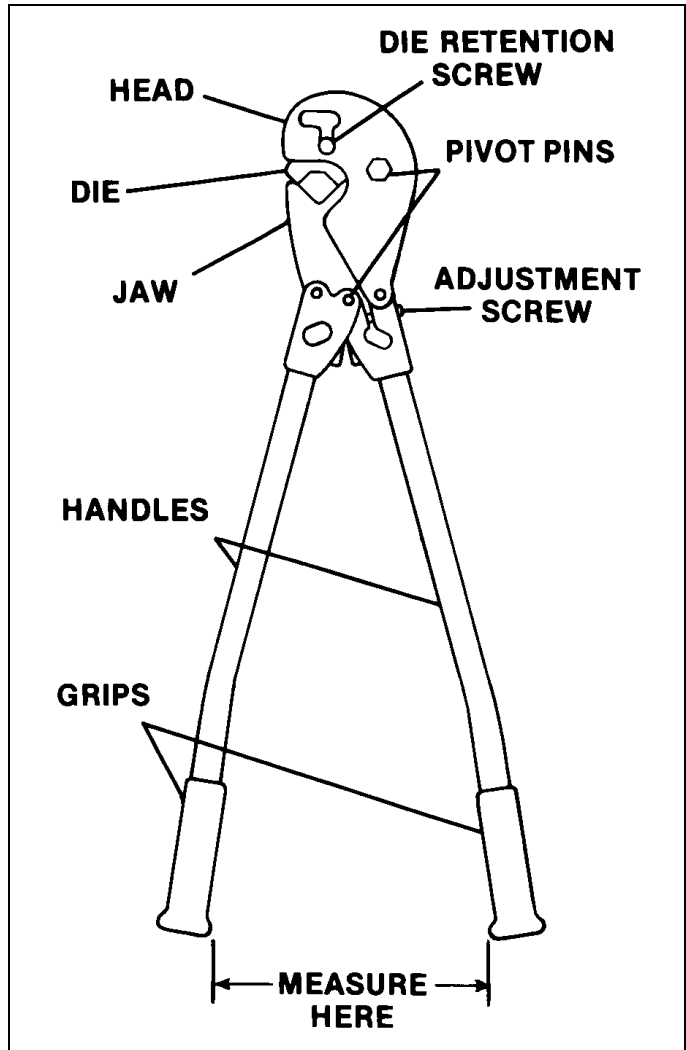

Figure 1
2. Lay tool on flat surface and close handles until jaw just contacts die. Measure distance between grips as shown in Figure 1. This distance should measure between 10" and 13".